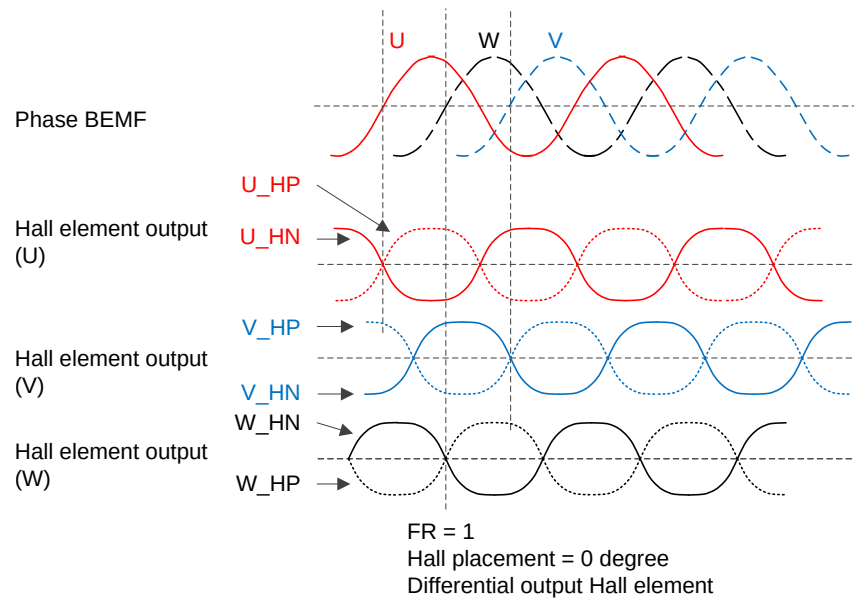
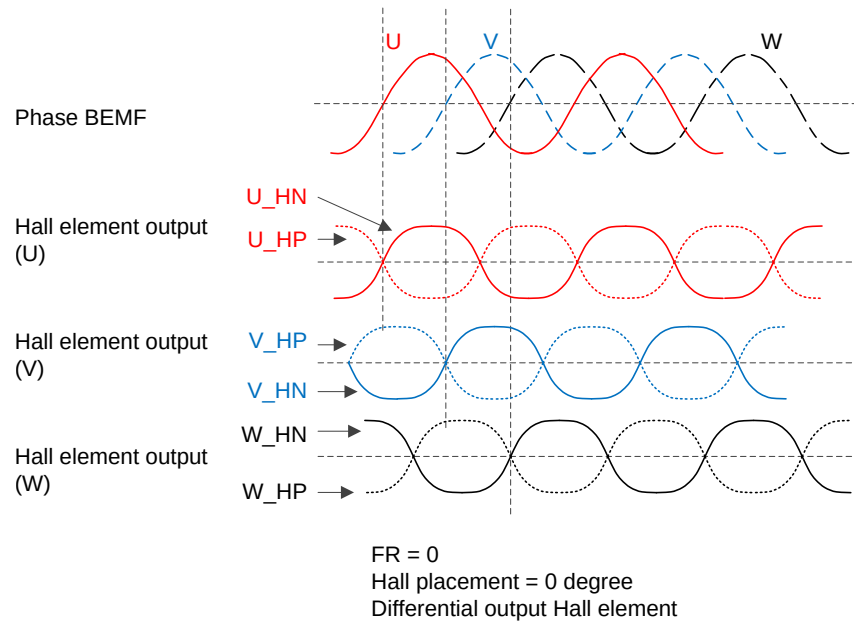
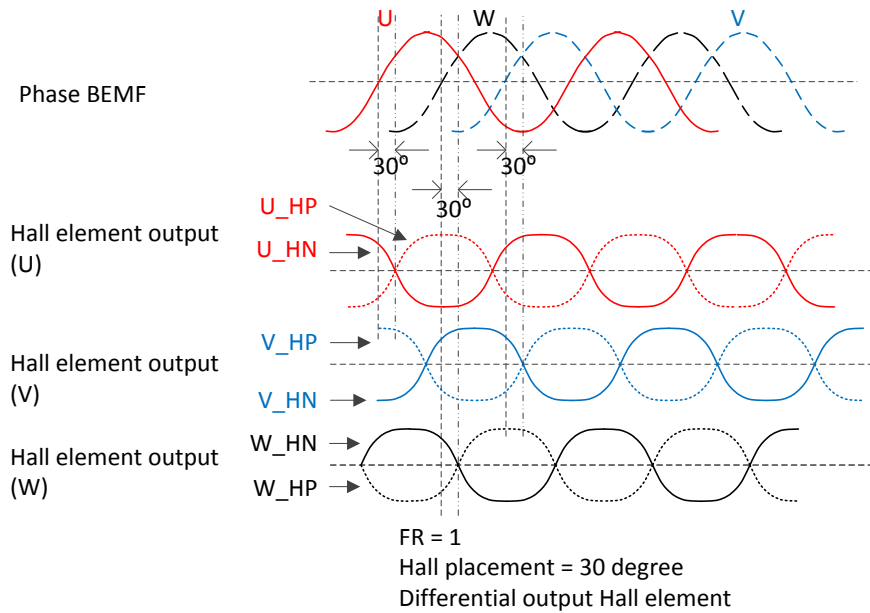
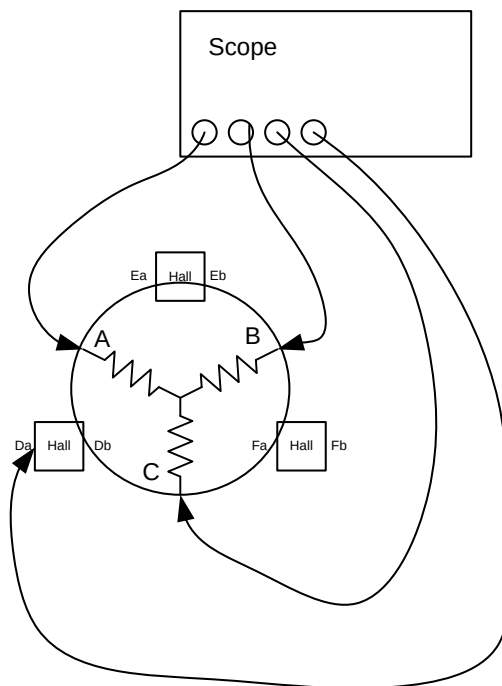

图 24. Correspondence Between Motor BEMF and Hall Signal (FR = 1, 0° Placement)
图 25. Correspondence Between Motor BEMF and Hall Signal (FR = 0, 0° Placement)
图 26. Correspondence Between Motor BEMF and Hall Signal (FR = 1, 30° Placement)
图 30. Motor Measurement
1. Phase U is leading phase W by 120°, phase W is leading phase V by 120°. The Hall signal positive output is aligned with respective phase BEMF. Choose FR = 1 and 0° placement option (see 图 24).
2. Phase U is leading phase V by 120°, phase V is leading phase W by 120°. The Hall signal positive output is aligned with respective phase BEMF in the opposite direction. Choose FR = 0 and 0° placement option (see 图 25).
3. Phase U is leading phase W by 120°, phase W is leading phase V by 120°. The Hall signal positive output is 30° lagging of respective phase BEMF. Choose FR = 1 and 30° placement option (see 图 26).
5. Use 4 channel Scope to observe signals. Connect probe -1, 2, 3 to A, B, C terminals of the motor (phases), probe-4 connects to Hall Da (or D). Name the probe 1 (terminal-A) as U-phase. (see 图 30)
6. Turn the rotor manually in clock-wise direction. If the waveform on probe-1 (U-phase) is leading probe-2 (terminal-B) by 120° , name the terminal-B as phase W and terminal-C as phase V. Else if waveform on the probe-2 is leading probe 1 (U) by 120° , terminal-B as V, terminal-C as W. At this stage all three phases of the motor are identified.
9. After phase UVW and Hall UVW positive negative are identified, manually rotate the motor again, check if the result matches 图 24 and 图 25 (0° placement) or 图 26 and 图 25 (30° placement).